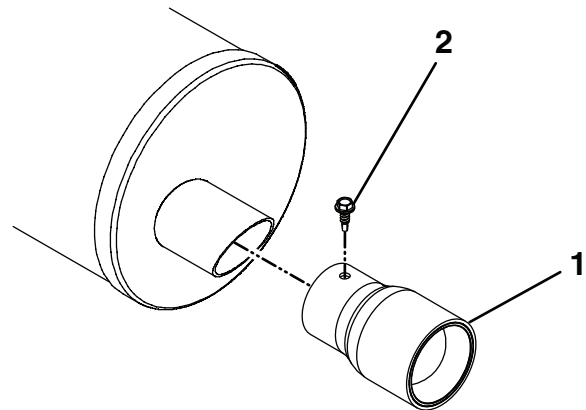

Figure 3
2. Secure the spark arrester to the muffler using the 2 self-threading screws (#8 x 1/2 inch) as shown in Figure 3.